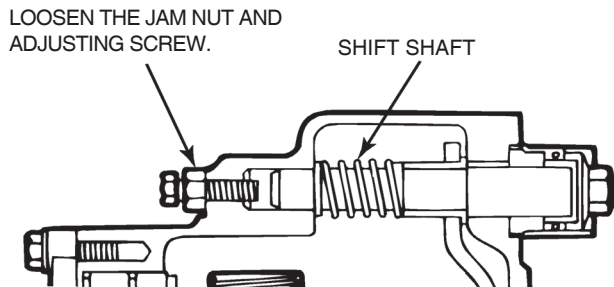

Figure 5.106
- A. Loosen the jam nut on the adjusting screw. Loosen the adjusting screw so that the screw does not touch the shift of the drive mechanism. Figure 5.106.